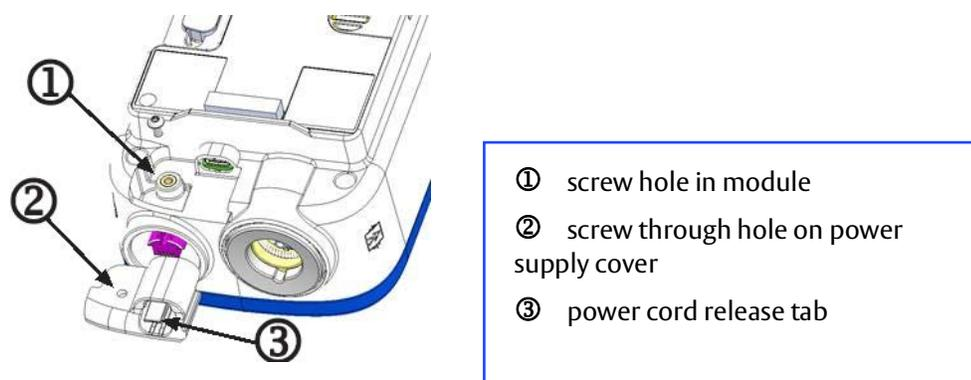

Figure 3-4 HemoSphere Stream™ Module power supply and cover - screw location
Before connecting the power cord to the bottom panel of the module, ensure that the power supply cover is installed. A single screw can be used to attach the power supply cover. See figure 3-4.
If the power supply cover is already installed, and access is needed to the USB port, remove the one screw (figure 3-4) that attaches the power supply cover to the module.
The power cord cover does not need to be removed to detach the power cord from the module. To detach the power cord from the module, depress the latch (see ③ in figure 3-4) and gently pull the cord out of the USB port.